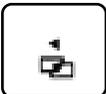

Fig. 14 Right side of the multi-function steering wheel: Controls for the menus and information in the instrument cluster display.
The instrument cluster menus are controlled with buttons on the right side of the steering wheel → Fig. 14.
- ▶ If a message or the vehicle icon is displayed, push the  button (→ Fig. 14) on the right side of the multi-function steering wheel until a main menu appears in the instrument cluster display. For a list of main menus, see → Menu structure – overview.
To open the menu or information display shown in the selection menu, press the  button on the multi-function steering wheel → Fig. 14, or wait until the menu or information display opens automatically after a few seconds.
Use the arrow up and down buttons  or  on the multi-function steering wheel → Fig. 14 to navigate through the available options. A frame may appear around the selected option. Push the  button to select a setting.
Press the  or  button → Fig. 14.
- ▶ Use the arrow up and down buttons (  and  ) on the right side of the steering wheel → Fig. 14.